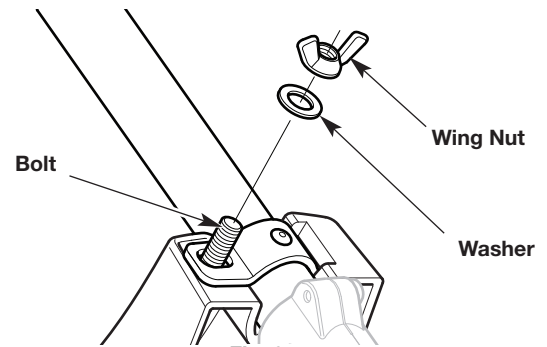

Fig. 2
4. Place the washer onto the bolt (Fig. 2).
5. Screw the wing nut onto the bolt until the cutting head shield is firmly in place (Fig. 2).